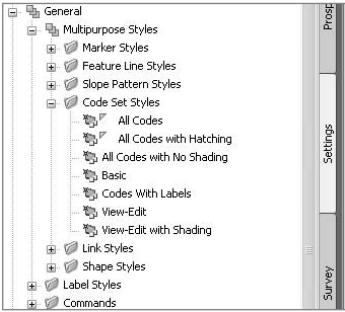

Figure A.87
5. Expand the General → Multipurpose Styles → Code Set Styles branches on the Settings tab of Toolspace, as shown in Figure A.87.